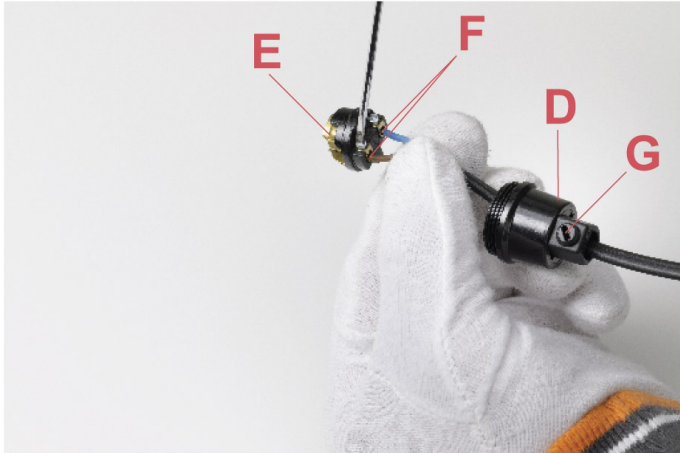

Fig.7
Insert through the electrical cable the cable clamp (G) and the support (D). Connect the wires (F) on the fitting (E) respecting the polarities.(Fig.7)